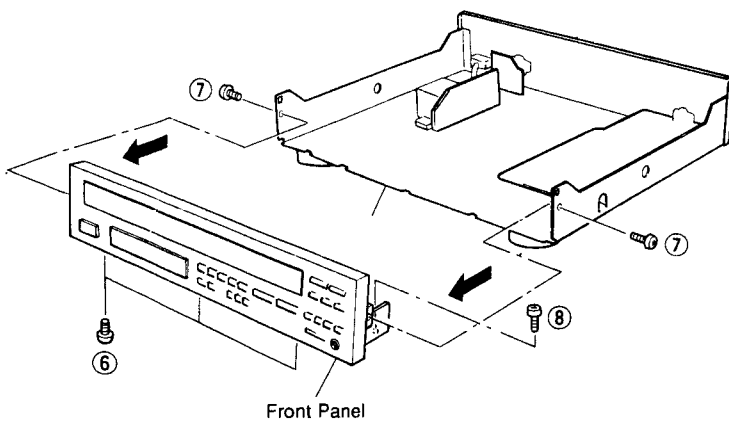

Fig. 8
- Remove 5 screws , (⑥ , ⑦) and also 1 screw (⑧) as shown in Fig. 8.
- Take off the Front Panel Unit slowly as shown in Fig. 8.